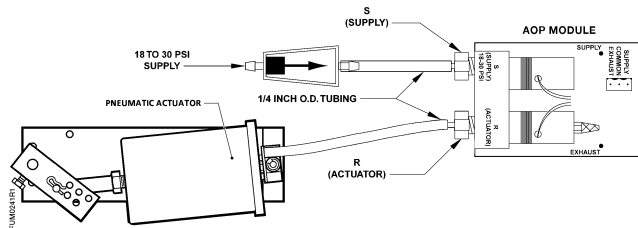

Figure 3. AO-P Module Piping Connections.
2. Using 1/4-inch O.D. tubing, connect the 18 to 30 PSI air supply to the filter inlet that was just installed on the AO-P module. See Figure 3.
3. Using 1/4-inch O.D. tubing, connect the pneumatic damper actuator to the R (Actuator) fitting on the AO-P module. See Figure 3.